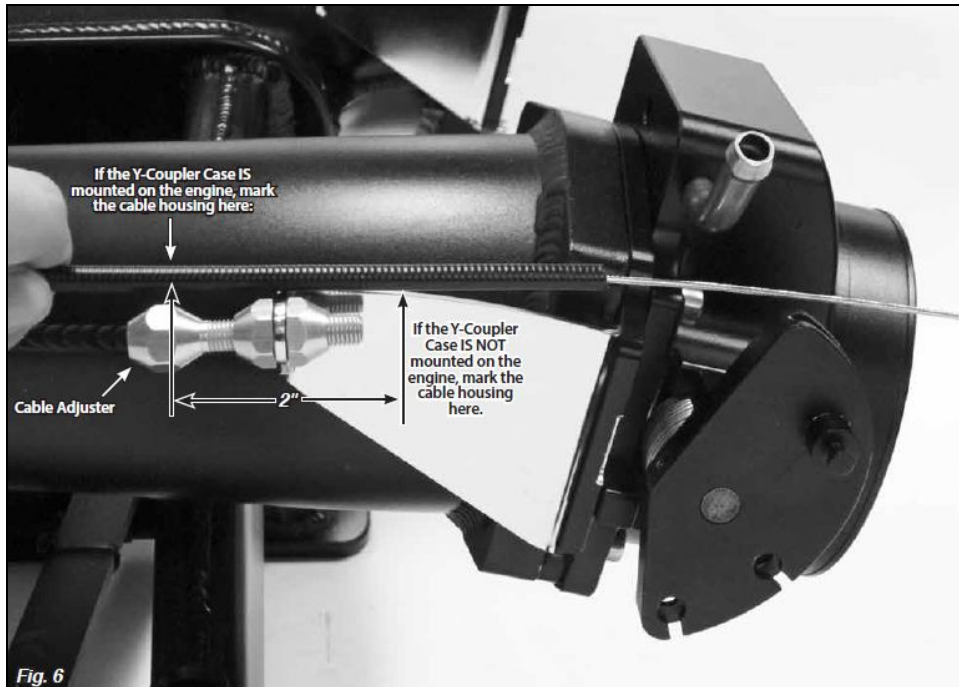

Fig. 6
8. Route the throttle body cables up to the cable adjusters. If the Y-coupler case is mounted on the engine itself, mark both of the throttle body cable housings where they bottom out in the cable adjusters. If the Y-coupler case is NOT mounted on the engine itself, mark the throttle body cable housings 2" beyond the cable adjusters. NOTE: If the Y-coupler case is not mounted on the engine, the cable housings must NOT be straight between the Y-coupler case and the cable adjuster. There must be some slack to allow for engine movement (**Figure 6**).